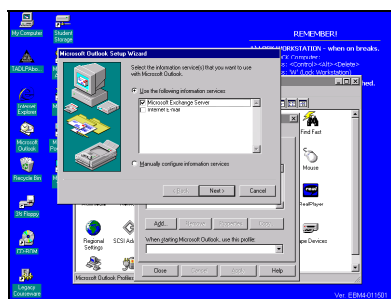

FIGURE II.5
- 5) Place the cursor over block in front of “Microsoft Exchange Server” and left-click the mouse button once to put a check mark in the block. (see figure II.5) “Microsoft Mail and Internet Mail” should remain unchecked. Position cursor over the next button and left-click the mouse button once.